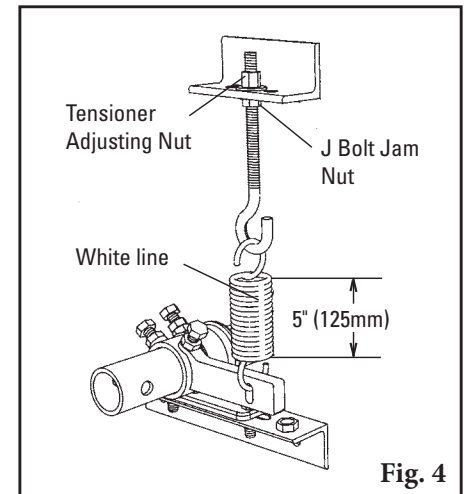

Fig. 4
4. **Reset the correct blade tension.** Loosen the J bolt jam nut and turn the tensioner adjusting nut until the coil is 5" (125mm) long. Measure the length of the white line on the spring (Fig. 4). Complete on both sides of cleaner, if required. **NOTE:** The given spring length measurement is a starting point only. Actual length for correct cleaner blade tensioning may vary by cleaner width.